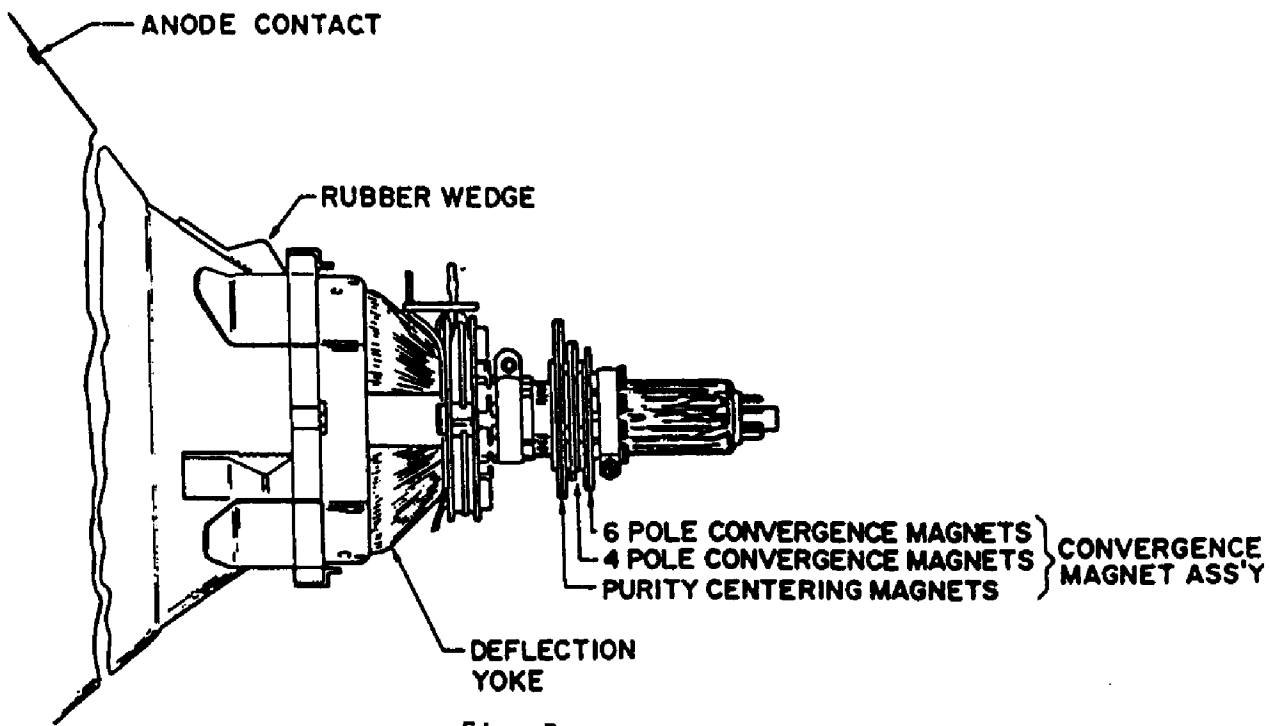

Fig. 7
2. A pair of 4-pole Convergence Magnets is provided and adjusted to converge the blue and red beams (See Fig.7).
4. A pair of 6-Pole Convergence Magnets is also provided and adjusted to converge the magenta (red + blue) to green beams (See Fig. 7) . When the Pole opens to the left and right 30 symmetrically, the magnetic field is maximized. Red and blue beams both move to the left and right (See Fig. 6) . Variation of the opening angle adjusts the convergence of magents to green vertical lines.